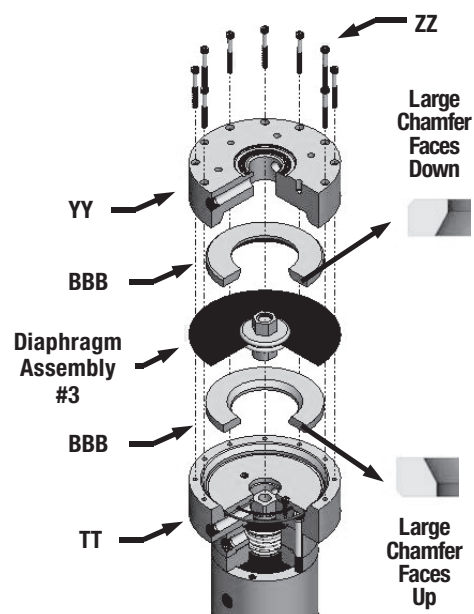

Figure 31
- C. For a High Gain Pilot (Figure 31), follow Step 50A, except, add the High Gain Rings (BBB) on both sides of Diaphragm Assembly #3. Take special note of the orientation of the chamfer on each of the High Gain Rings (BBB) shown in Figure 31. Move to Step 51.